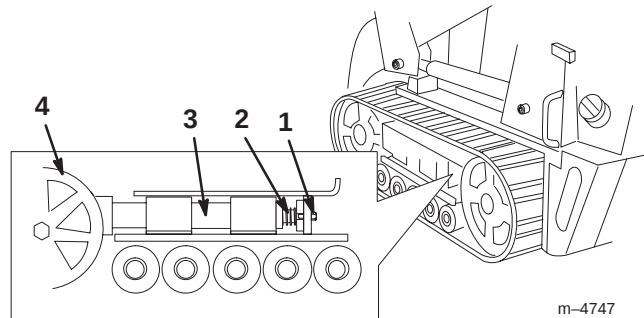

Figure 33
3. Remove the locking bolt and nut (Fig. 33).
5. Align the closest notch in the tension screw to the locking bolt hole and secure the screw with the locking bolt and nut (Fig. 33).
4. Using a 1/2 inch drive socket, release the drive tension by turning the tensioning screw clockwise (Fig. 33 and 34).
- Remove the locking bolt and nut (Fig. 33).
- Using a 1/2 inch drive socket, release the drive tension by turning the tensioning screw clockwise (Fig. 33 and 35).